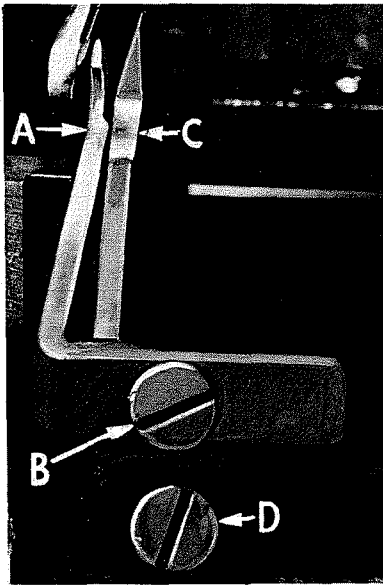

Fig. 6
Set the rear needle guard (A, Fig. 6) as high as possible without interfering with either the lower looper or movement of the lower knife holder, but still in position to deflect the needle forward $.002$ to $.004$ inch. Screw (B) is used to set rear needle guard. Make sure there is no interference between rear needle guard and lower looper.
Assemble front needle guard (C, Fig. 6). When lower looper is springing needle off back guard, set front needle guard as close as possible to needle without touching. Screw (D) is used to adjust and set front needle guard. After this setting make sure there is no interference between needle guards and differential feed dog.